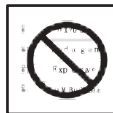

fig 2.
■ **NEVER USE OXYGEN, COMBUSTIBLE OR ANY OTHER BOTTLE GAS** as a power source or would cause explosion and serious personal injury. (See fig 2.)